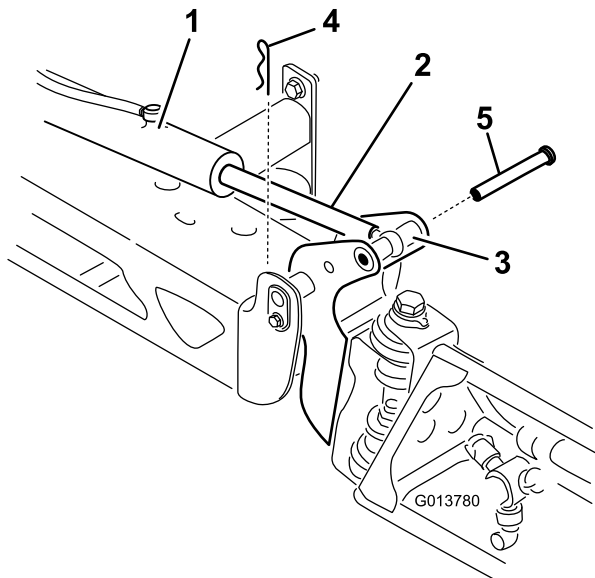

Figure 96
2. Remove the cotter pin from the pivot pin (Figure 96).
3. Lift up on the boom, remove the pin (Figure 96), and slowly lower the boom to the ground.
9. While holding the boom, insert the pin through both boom pivot and actuator rod (Figure 96).